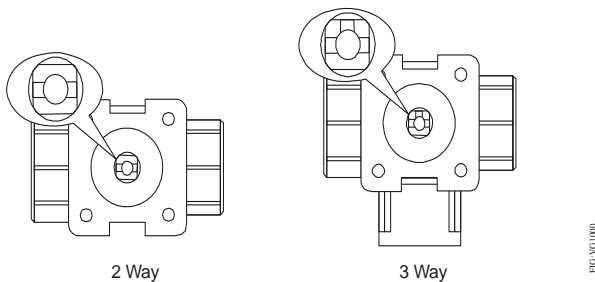

Figure 6: Positioning the Valve Stem
1. Turn the valve stem to the position outlined in Figure 6.